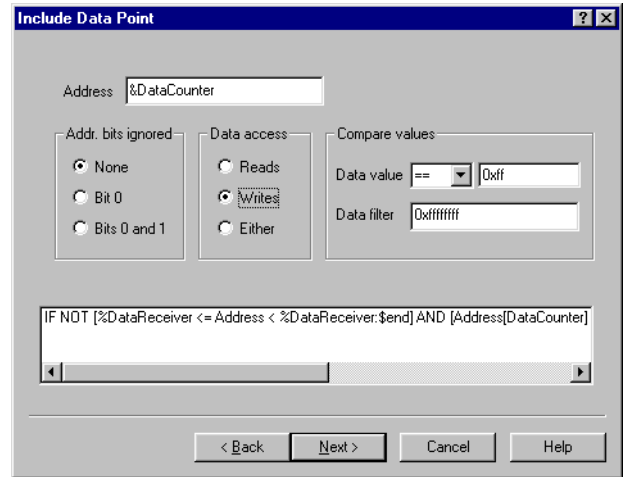

Figure 8-18 Include Data Point dialog box
11. Click on **Next>**. The Data Point dialog box shown in Figure 8-18 on page 8-21 is displayed.